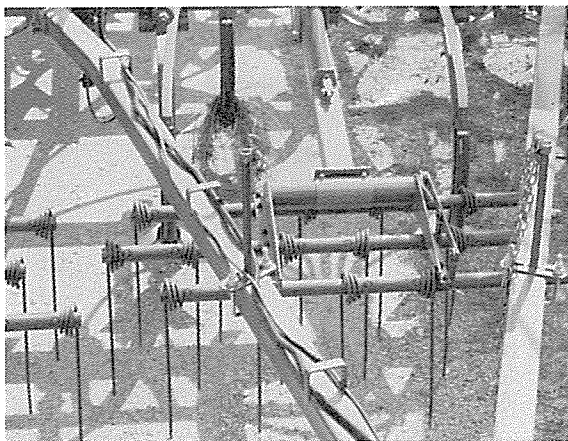

Figure 19
- (l) Run Clutch and Monitor wires through the loops along the L.H. Hitch Pole. (See Fig. 19).